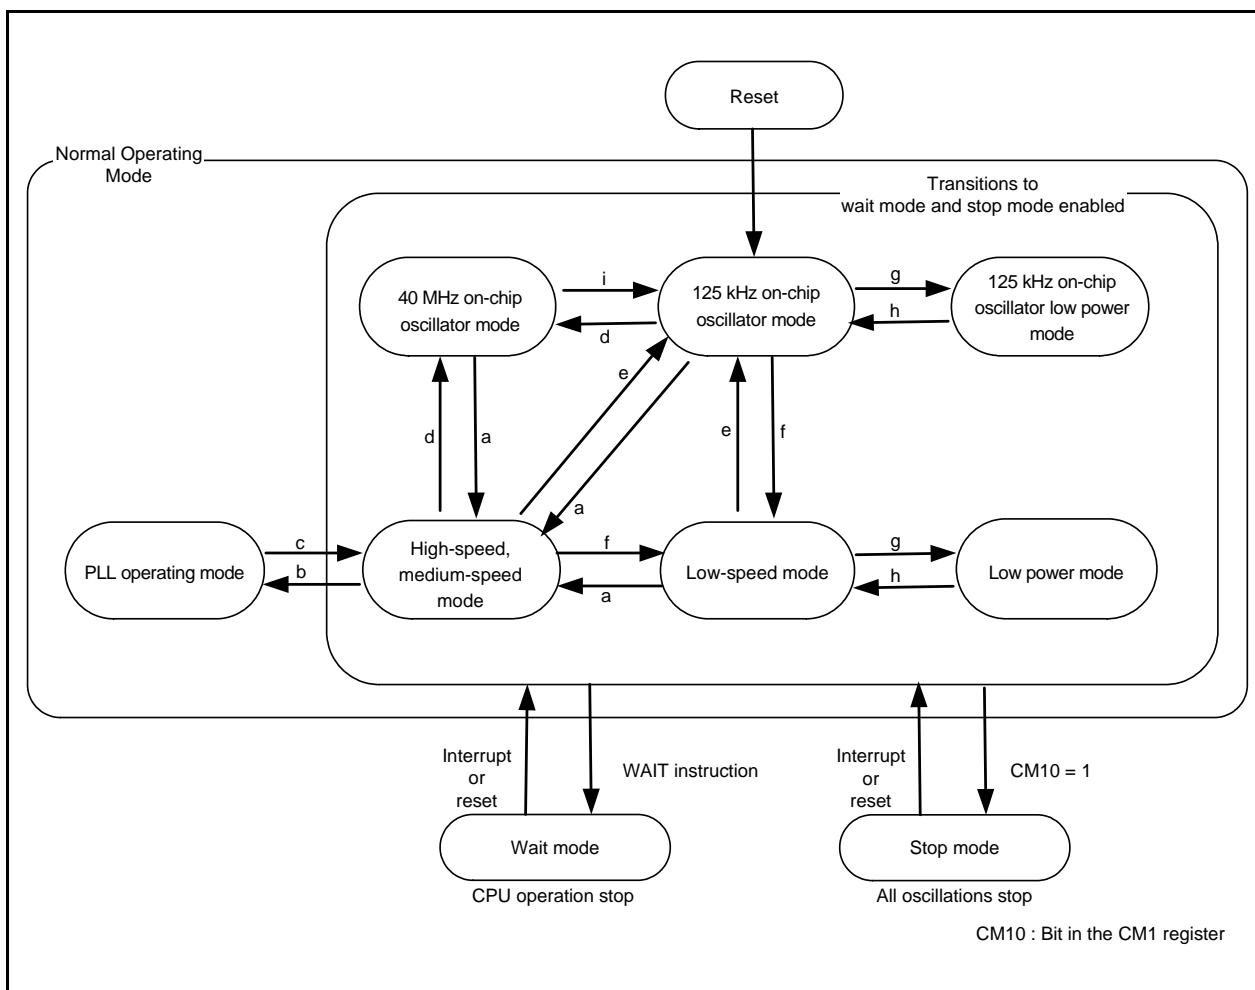

Figure 9.1 Clock Mode Transition
PLL operating mode can be entered and exited from high-speed mode or medium-speed mode. To enter other modes including wait mode and stop mode, enter high-speed mode or medium-speed mode first, and then enter the intended mode (refer to Figure 9.1 "Clock Mode Transition").
Figure 9.1 shows Clock Mode Transition. Arrows indicate that mode transitions are enabled between modes.
- Execute mode transition according to the following procedures. To access registers and bits, see 9.2 "Registers". Letters a to h correspond to those in Figure 9.1 "Clock Mode Transition".
- (1) Oscillate the main clock and wait until the oscillation stabilizes. See 8.3.1 "Main Clock".
- (2) Set the CM06 bit to 1 (divide-by-8 mode).
- (3) Set the CM11 bit to 0, the CM21 bit to 0, and the CM07 bit to 0 (main clock selected as CPU clock source).